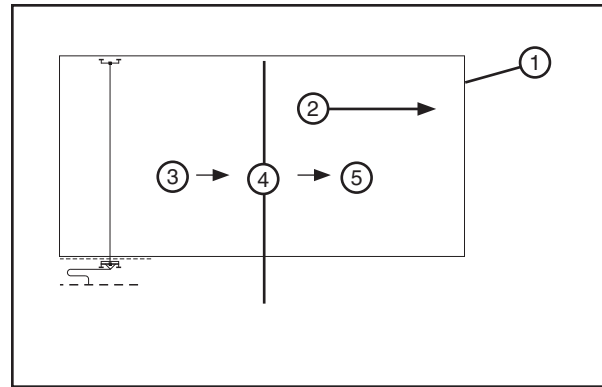

Figure 37-1 1. Field 2. Direction of Travel 3. Wet 4. Stop 5. Dry
1. The percentage timer is set at the desired application rate and the system is started at one end of the field and run wet (irrigating) to the middle of the field. See figure 37-1.
2. The system is stopped, the percentage timer is set to 100% and the system is run dry to the other end of the field. See figure 37-1.